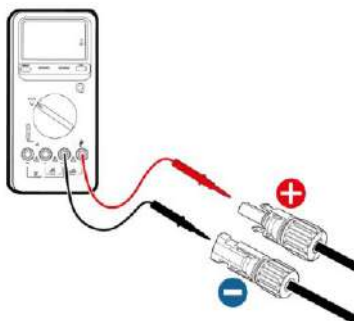

Figure 4.9 DC input voltage measuring
- (3) After the DC connector is connected, use a multimeter to measure the voltage of the DC input string, verify the polarity of the DC input cable, and ensure that the voltage of each string is within the allowable range of the inverter, as shown in Figure 4.9.